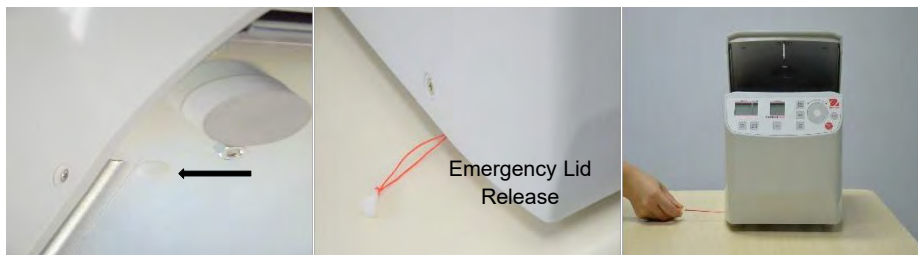

Figure 32
- At the right side of the centrifuge (**FC5513R**) there is a plastic stopper. At the **FC5513** and **FC5513L** the stopper is at the left side (see **Figure 32**). Remove this stopper, which is connected to the lid lock with a red string.